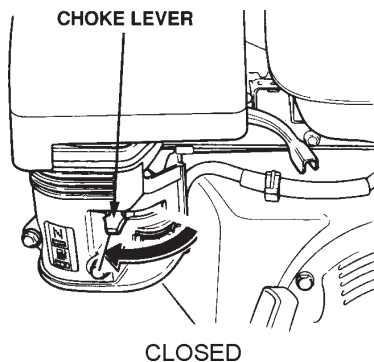

Figure 9. Engine Choke Lever (Closed)
3. Place the **choke lever** (Figure 9) in the **CLOSED** position if starting a **cold** engine.